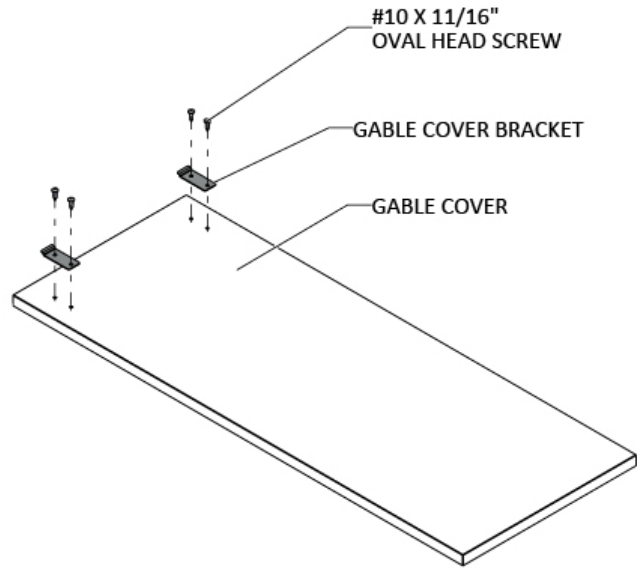

Figure 14
- 24.** Attach the gable cover brackets, using #10 X 11/16" Oval Head Screws into the pre-drilled holes of the gable cover, (Figure 14). Repeat this procedure for each gable cover required.